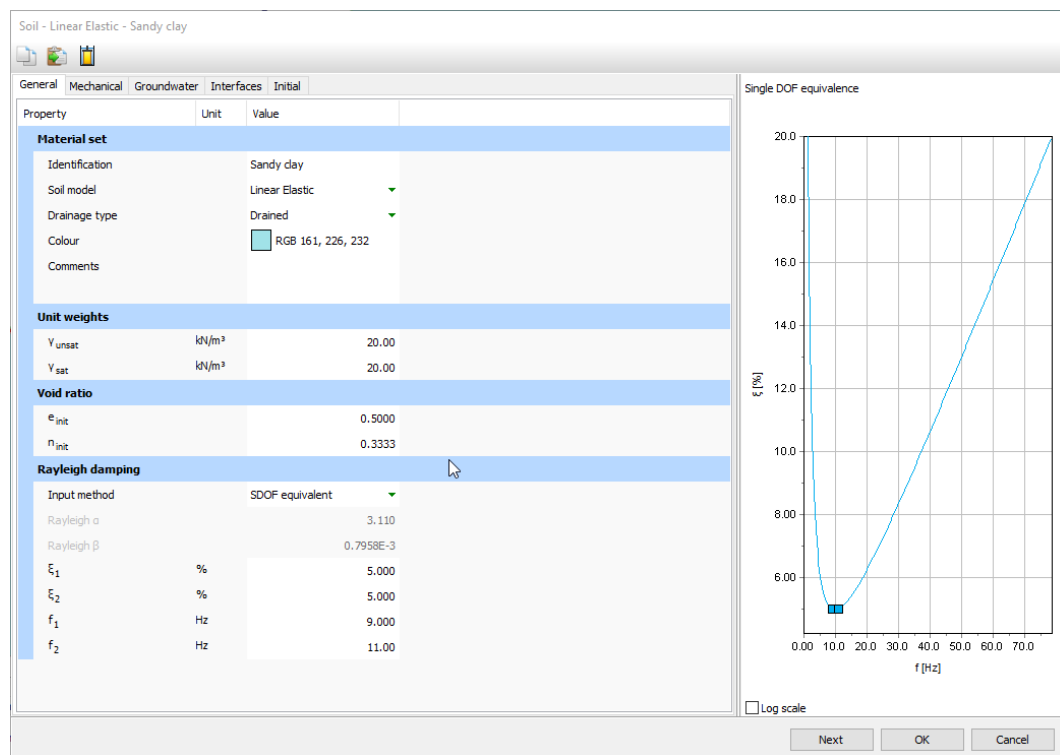

Figure 133: Input of Rayleigh damping
3. In the **General** tabsheet under **Rayleigh damping** select as Input method the **SDOF equivalent** option (See Figure 133 (on page 160)).